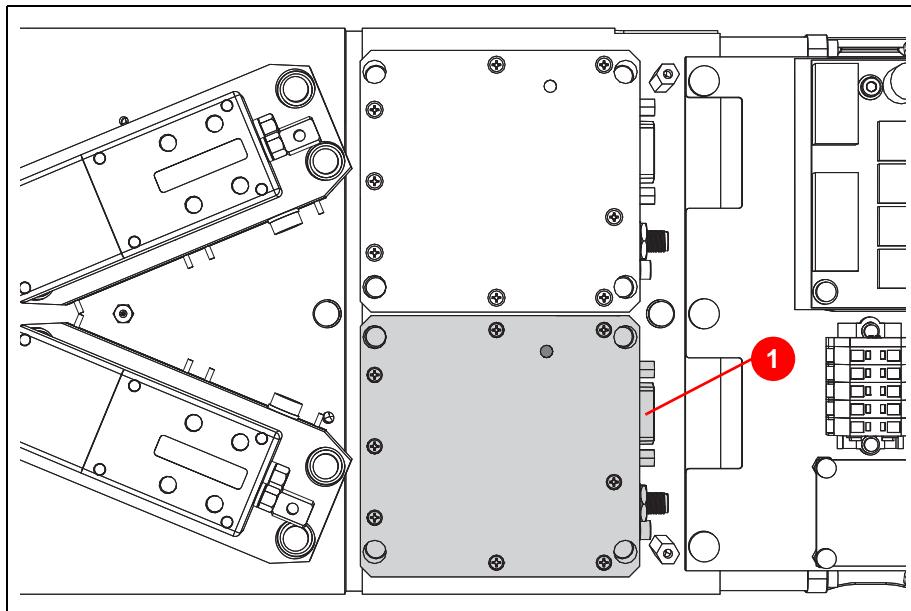

Figure 6.62 Connecting plug -X12 HG 29-80
1. Unscrew the connecting plug -X12 (1) (Figure 6.62) from the HG-29-80 and remove.